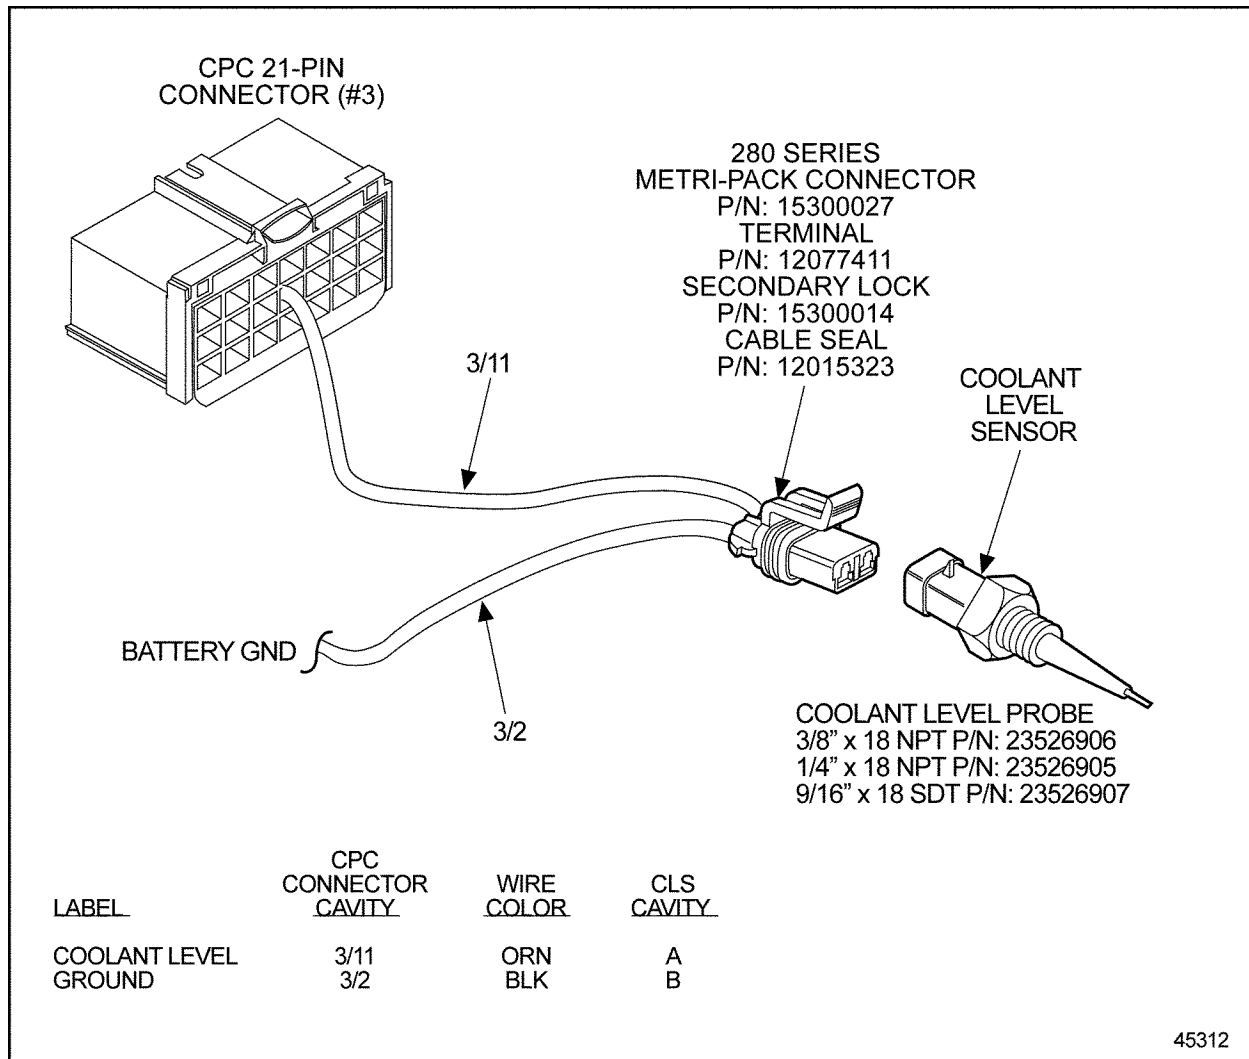

Figure 30-3 Engine Coolant Level Sensor Installation for CPC
- [a] If the resistance is greater than 600 k Ω (submerged) or open, replace ECL sensor. See Figure 30-3. Refer to section 30.2.1.1.